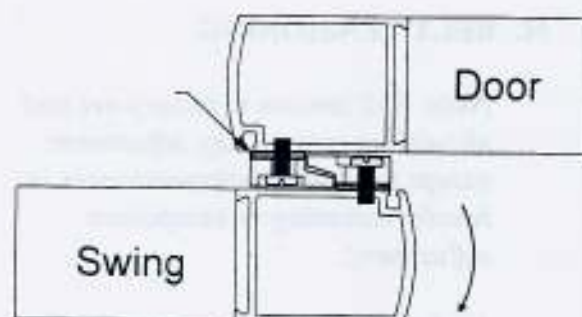

Figure 31
- Loosen the mounting screws and slide the interlocks closer to the edges of the stile. Slide shims under the interlocks as needed to ensure proper engagement (See Figure 31). It may be necessary to remove some brush from the back side of the interlock.